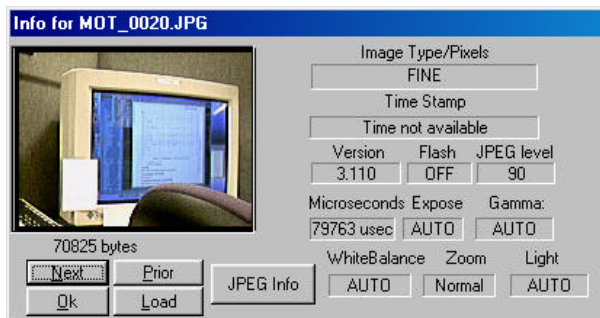

Figure 14-10
- d) **Image Info** – displays various information on the Selected image. (if more than one image is selected- it will display info of one image at a time-see figure 14-10).